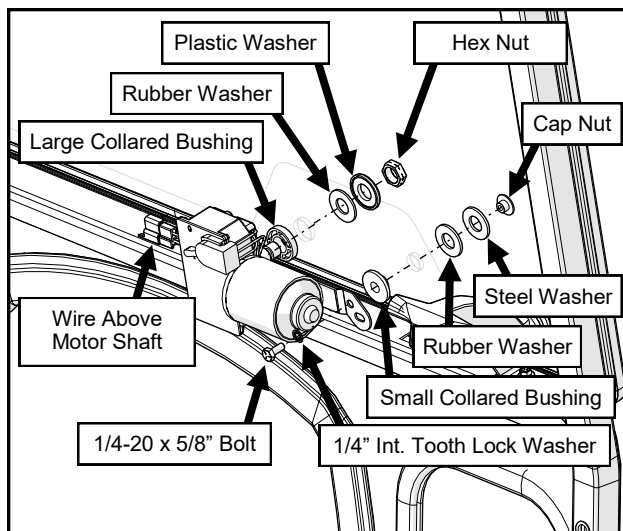

Fig. 14.1 (Windshield Wiper Motor)
14.1 Mount the wiper motor to the windshield. See Figure 14.1. Make sure the wires are above the wiper motor shaft to prevent pinching the wire when the windshield is opened and closed.